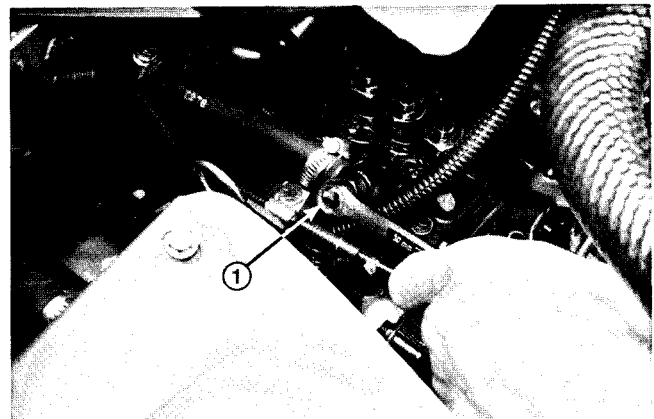

Figure 40
4. Open the air vent screw on the fuel injection pump (Fig. 40).